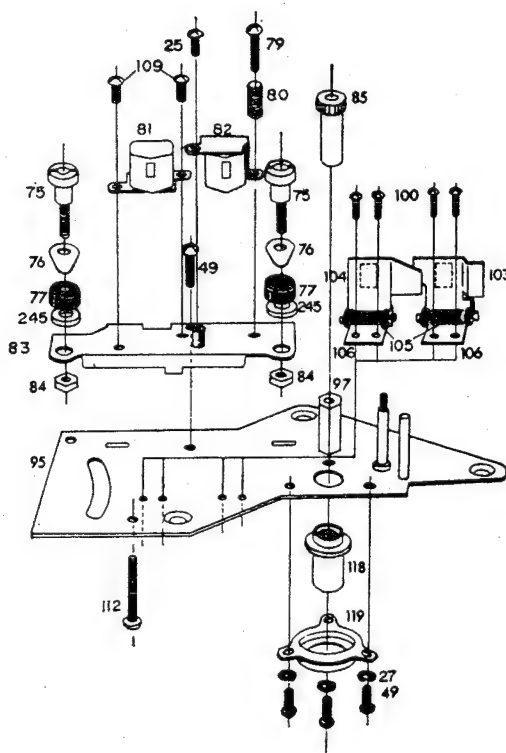

Figure 15
6. RECORD/PLAYBACK HEAD (82) ADJUSTMENT (Refer to Figure 15)
2. ADJUST the SCREW (25) of the RECORD/PLAYBACK HEAD (82) to obtain maximum output and best reproduction of high frequencies using the azimuth alignment tape.
7. HEADS (81) (82) HEIGHT ADJUSTMENT (Refer to Figure 5 and Figure 15)
8. TAPE PADS POSITIONING ADJUSTMENT (Refer to Figure 15)